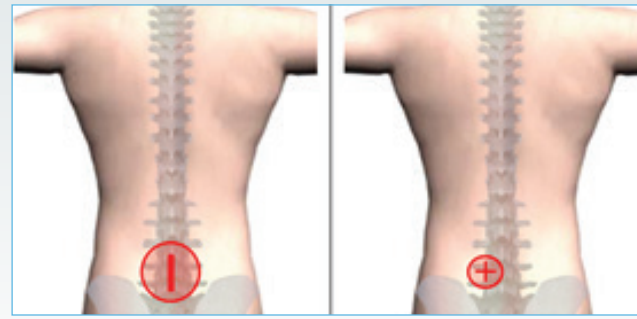
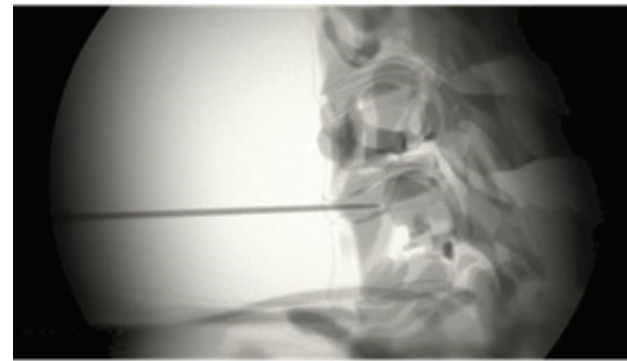

Figure 2
Figure 3
- Identify the affected level(s) using fluoroscopic imaging and palpation of the targeted anatomy (Figure 2). Access the operative site using preferred instruments. Tissues should be retracted enough to allow for exposure and visualization of the targeted disc space. Insert a marker into the disc(s) to confirm the correct operative level(s) using a lateral radiograph (Figure 3).